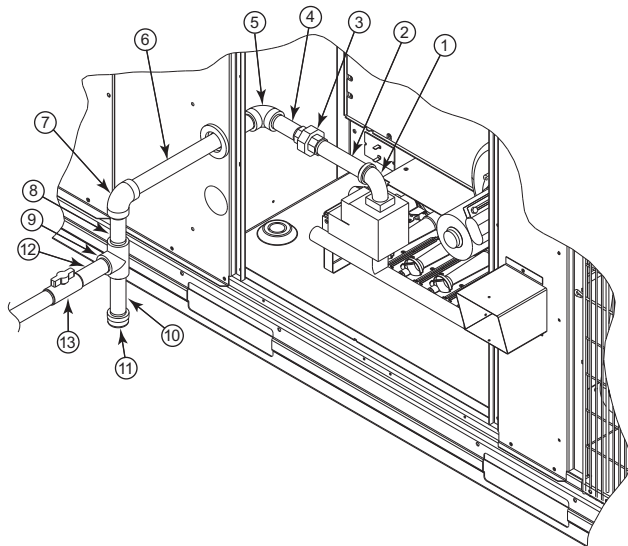

Fig. 18 — Gas Supply Line Piping
For typical 3/4 in. NPT field supplied fittings required for NON Thru-Base gas supply starting from the unit gas valve, omit items 14 and 15 from Table 5 and pipe gas supply into Tee. See Fig. 18.
Some municipal codes require that the manual shutoff valve be located upstream of the sediment trap. See Fig. 18 for typical piping arrangements for gas piping that has been routed through the sidewall of the base pan.